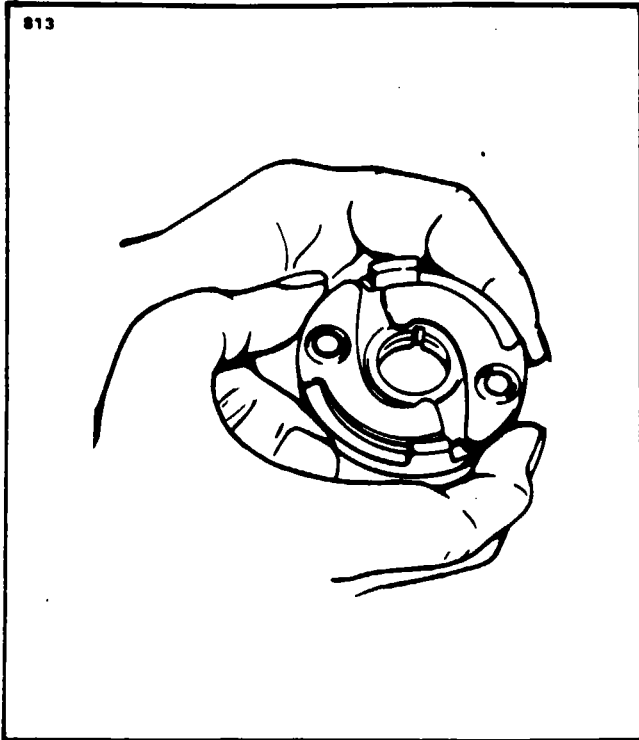

Figure 74-17. Checking Impulse Coupling for Magnetization
1. Check mating cam assembly and body for magnetization which would prevent flyweights from engaging. Hold the assembly as shown in Figure 74-17 and push upper flyweight against body. When released, flyweight must drop down. If flyweight sticks to body, parts are magnetized and coupling may not function. Perform test on both flyweights.